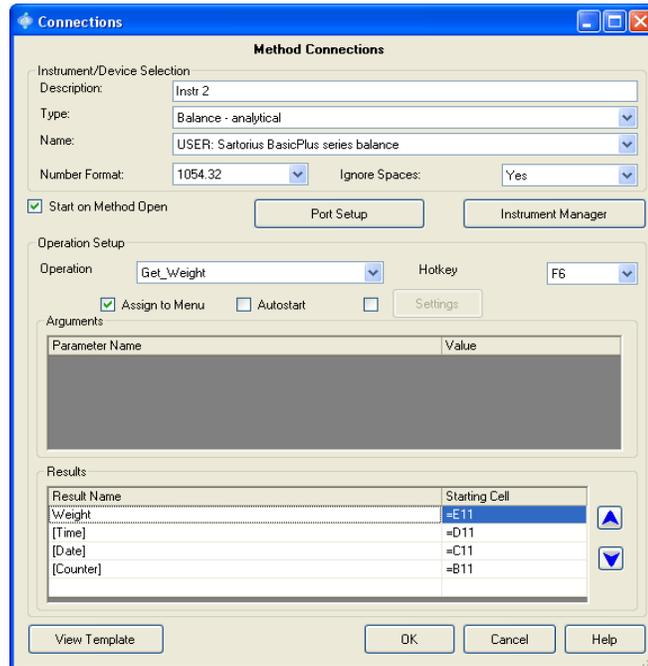

Figure 2.3: Connections Tab
2. A [Connections] dialog similar to the example in Figure 2.3 will appear and the settings for that instrument or device connection are displayed.